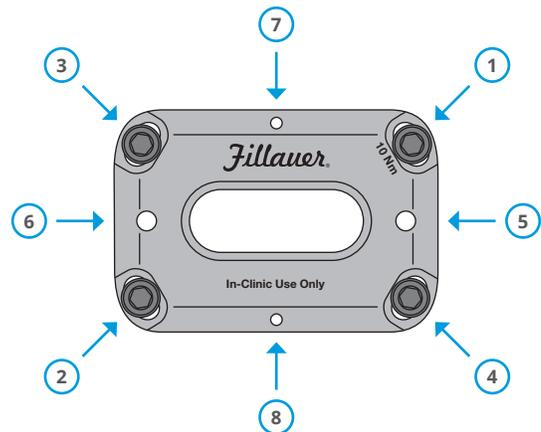

Figure 4
- After the plaster is set, remove the socket from the foot by removing only socket head screws 1 - 4 in Figure 4. This will leave the surface of the foot exposed for direct bonding to the socket or transfer to a two-hole Posterior Mounting Bracket (180-10-2010) and will allow you to remove the bracket from the socket to clean that surface.